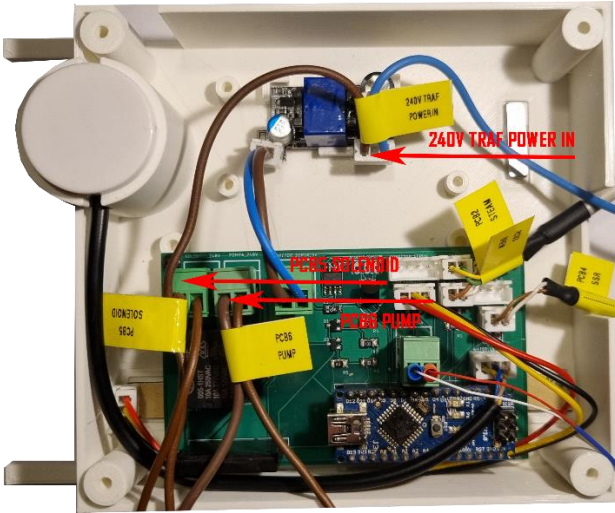
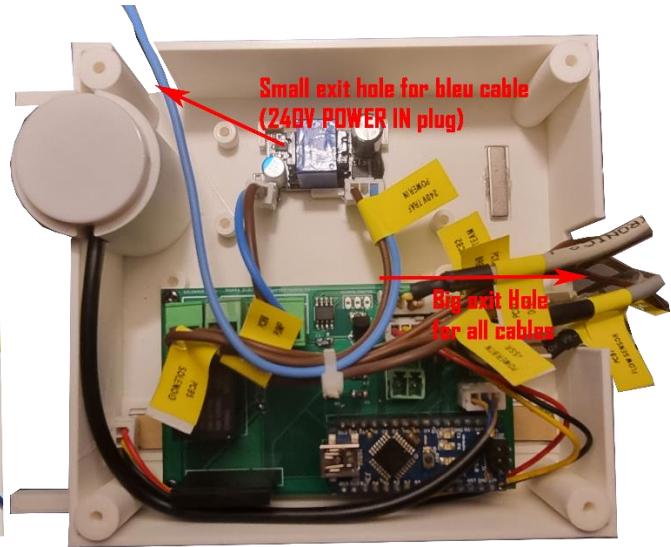

Fig. 6.5
Fig 6.6
- Plug in the POWER&CONTROL CABLE - PCB plugs (PCB5 PUMP, PCB6 SOLENOID, 240V TRAF POWER IN) (fig. 6.5) . Please find the 240V POWER IN - BLEU wire and route it outside the case through the small hole(fig. 6.6), Then let the rest of the cables outside the case through the big hole (fig. 6.6)
- You can use some plastic necklace to tie them and arrange the cables position for better management. (fig 6.6)